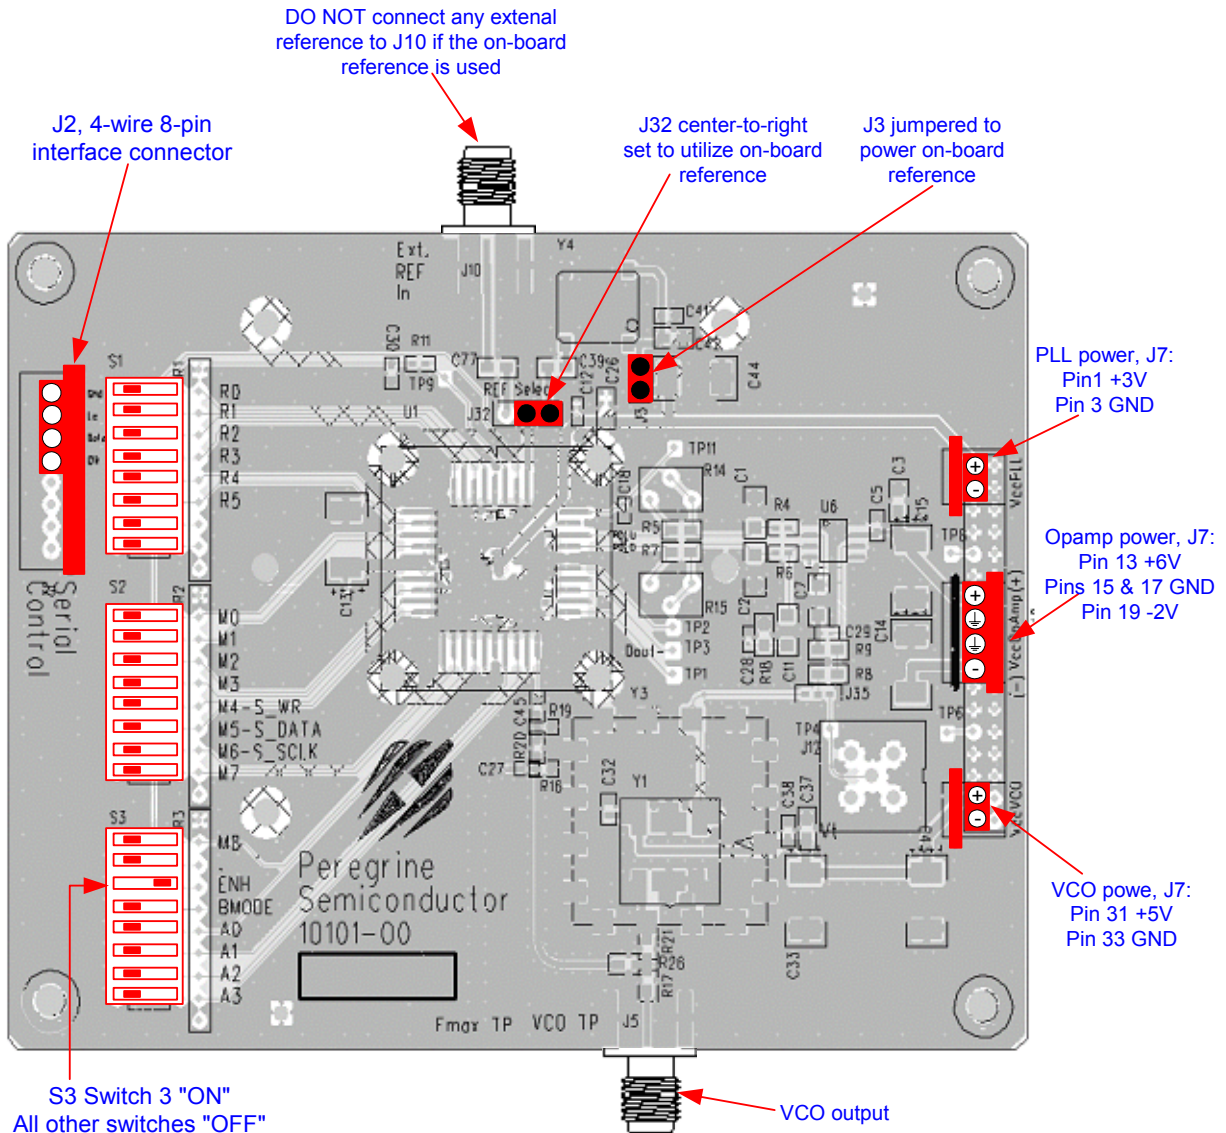
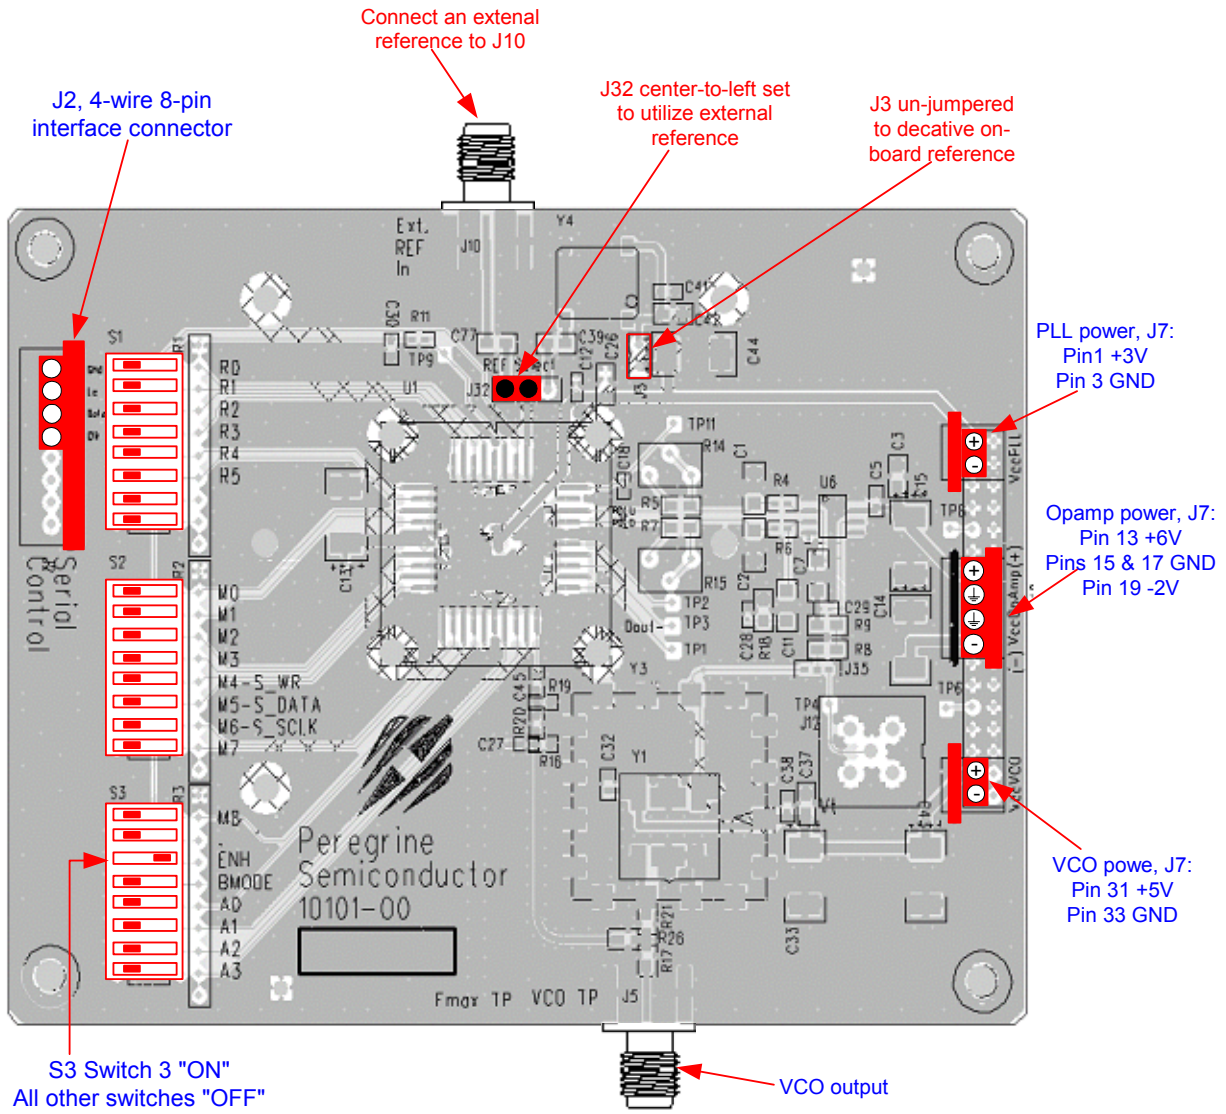

Figure 1. Evaluation Kit Default Jumper & Switch Settings Using On-board Reference.
Figure 2. Jumper Setting to Use an External Reference. The red texts show the necessary modification from Fig. 1.
The PE9704 Evaluation Board is configured with an on-board VCO, TCXO reference and a second order active loop filter. The loop filter is followed by an optional low pass filter after the Op Amp. The VCO tuning range is 3000 MHz to 3500 MHz and the reference oscillator runs at 20 MHz. The active loop filter is designed for a 1 MHz comparison frequency and a 3000 MHz output frequency with unity gain crossover at 66 kHz, phase margin of 73 degrees and 1.2 dB of peaking. The data provided was measured in this configuration with the default jumper settings shown in Figure 1.
Two jumper shunts (J3 & J32) configure the Evaluation Board to operate with either the on-board reference oscillator (TCXO) or an external reference applied to J10. Figure 1 shows the proper configuration for utilizing the on-board TCXO reference. J32 in the middle-to-right connection as shown connects the output of the TCXO to the PLL  $f_r$  input, while J3 installed provides power to the TCXO. Do not connect any external reference to J10 if the on-board reference is selected. To use an external reference, place J32 in the middle-to-left connection which connects the PLL  $f_r$  input to the J10 SMA connector and remove the jumper on J3 to power-down the TCXO. Figure 2 shows the configuration of using an external reference. The red texts show the necessary modification from Fig. 1.
The default jumper and switch settings are shown in Figure 1, which will place the part into serial programming mode utilizing the on-board reference. Peregrine Semiconductor recommends that the default settings be used initially to bring up the evaluation board and duplicate the enclosed measured data.
1. Verify a jumper is placed on the connector J3 and REF Selector (J32) is positioned in the middle-to-right connection to select the on-board reference as shown in Figure 1.
3. Connect power supply cable to the Evaluation Kit board as shown in Figure 1. Note that the red connector of the power cable is always the positive and the black connector is ground in a 2-wire cable or the negative in a 4-wire cable.
5. Using the application software provided and described in detail in the next section, serial programming can be evaluated. To enable software control of the evaluation board, ensure all DIP switches are turned OFF except for ENH (Switch 3 of S3) as shown in Figure 1. The 4-wire interface cable (3-wire serial interface and GND) should be connected from your computer's printer port to J2 on the evaluation board to enable software control.